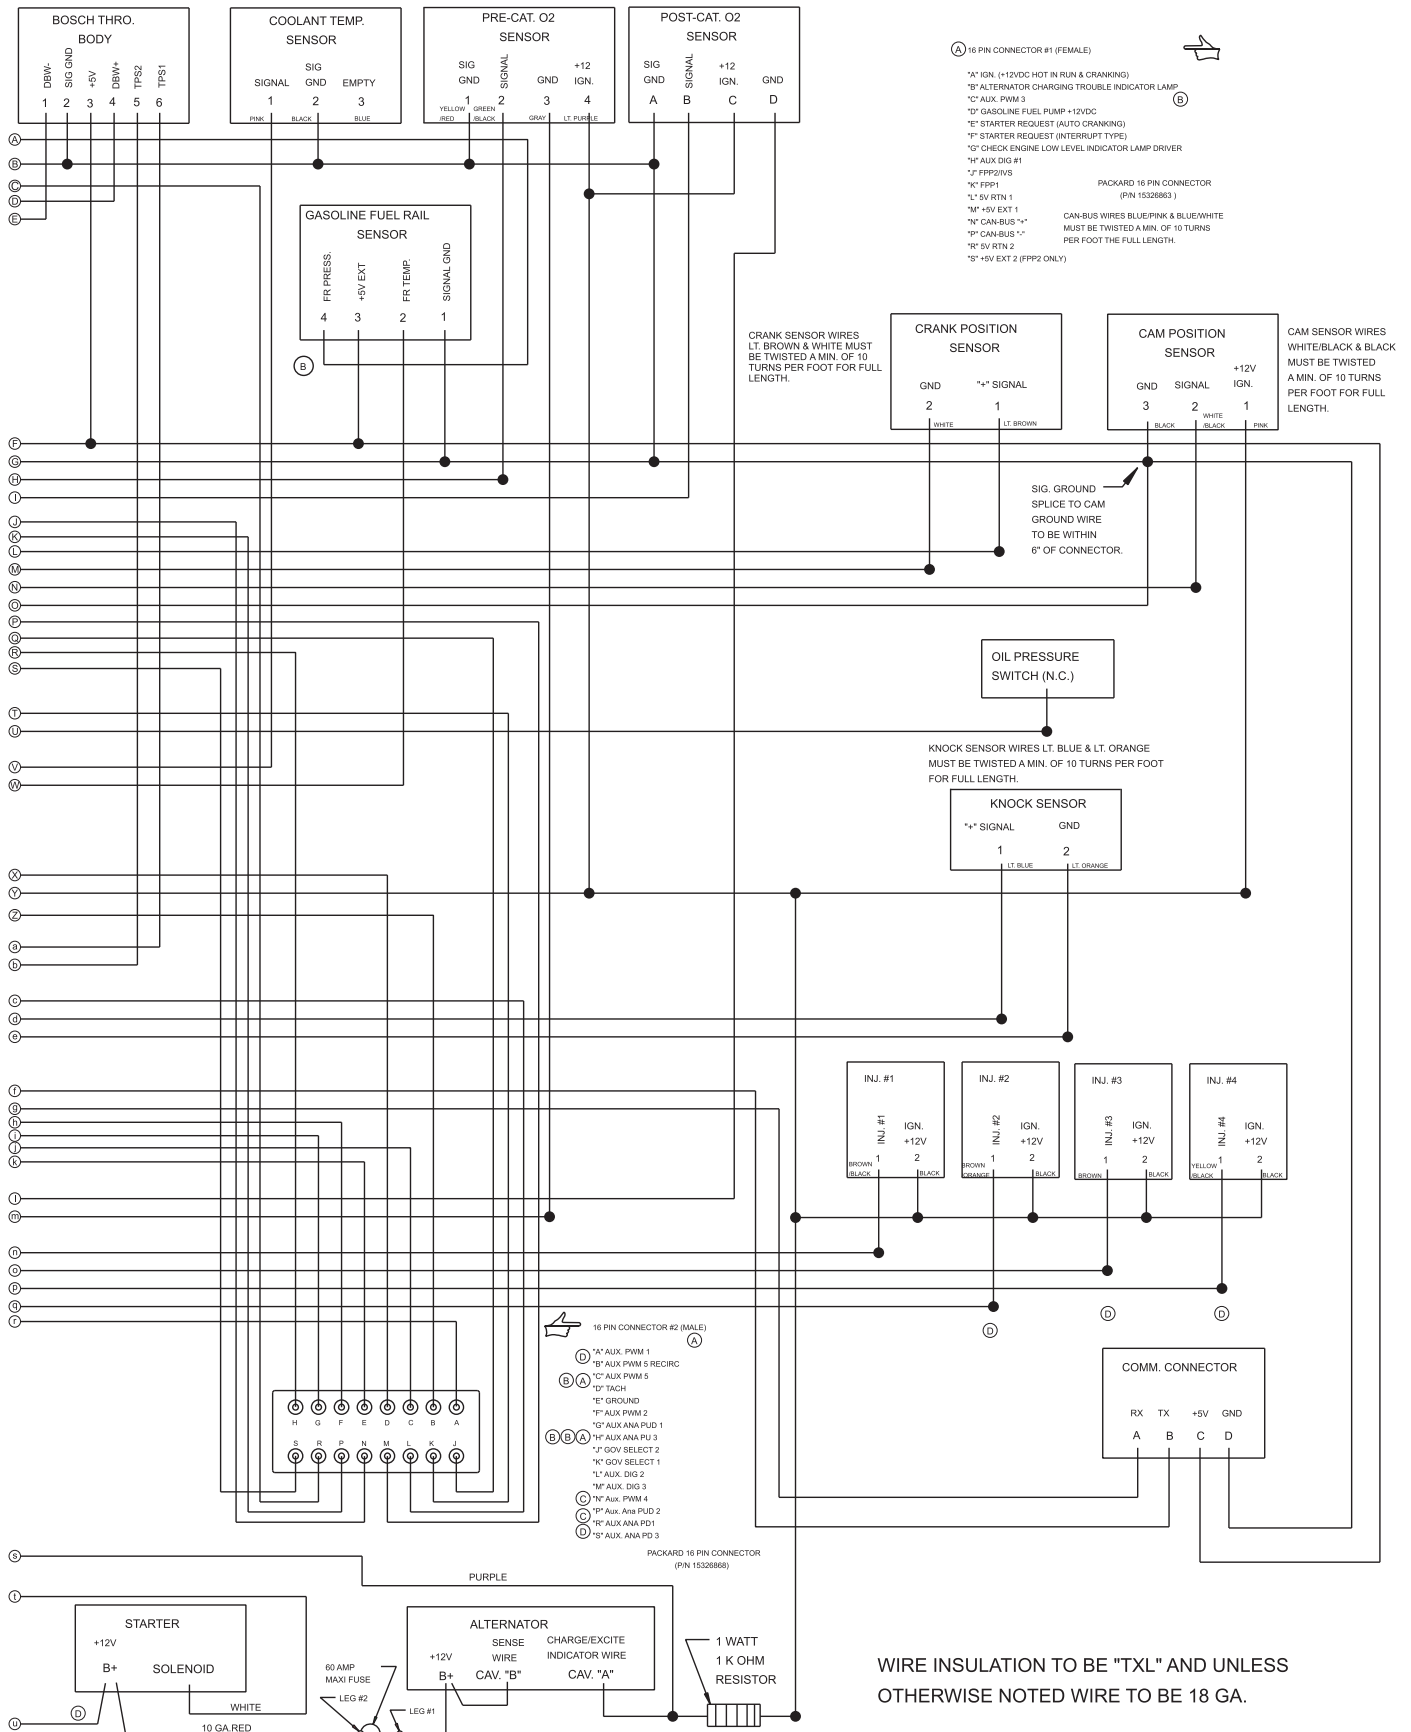

Figure 38. Zenith Fuel Injection System Wiring Diagram (Cont.)
3. Fill the cone 1/3 full by volume (Figure 38-A) and rod 25 times with a 1/2" dia x 24" lg. bullet-pointed steel rod. (This is a specific requirement which will produce non-standard results unless followed exactly.) Distribute rodding evenly over the entire cross section of the sample.
4. Fill cone another 1/3 (Figure 38-B) which will make the cone 2/3 full by volume. Rod this second layer 25 times with the rod penetrating into, but not through, the first layer. Distribute rodding evenly over the entire cross section of the layer.
5. Fill cone to overflowing (Figure 38-C). Rod this layer 25 times with rod penetrating into but not through, the second layer. Distribute rodding evenly over the entire cross section of this layer.
6. Remove the excess concrete (Figure 38-D) from the top of the cone, using the tamping rod as a screed.
7. Lift the cone vertically (Figure 38-E) with a slow even motion. **DO NOT** jar the concrete or tilt the cone during this process. (Invert the withdrawn cone, and place it next to, but not touching the slumped concrete.
8. Lay a straight edge (Figure 38-F) across the top of the slumped cone. Measure the amount of slump in inches from the bottom of the straight edge to the top of the slumped concrete at a point over the original center of the base . The slump operation must be complete in a maximum elapsed time of 1-1/2 minutes. Discard the concrete. **DO NOT** use it in any other tests.